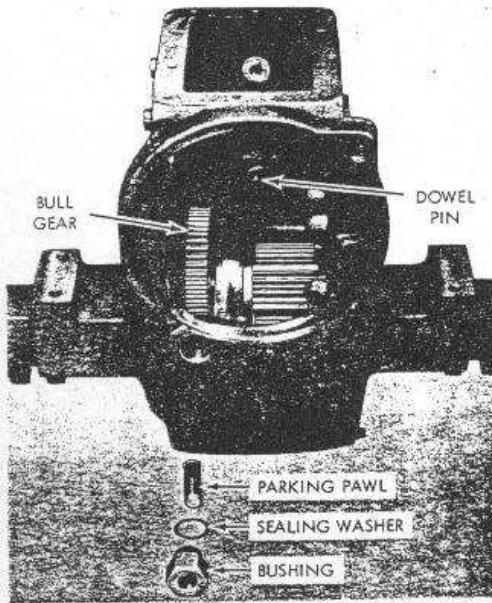

Figure 11
A slot located on the back end of the motor of the hydrostatic package should be centered on the dowel pin (Fig. 11) of the main housing. This mating can be observed through the top cover access-hole.
6. Before inserting special positioner bolt with gasket (12 and 13), observe to see if the dowel pin (Fig. 11) in the transaxle housing is in line with hydrostatic motor casting slot. If not, gently move (using rocking motion) in place. Insert bolt (12) and start thread engagement by hand.
The pinion gear hydrostatic motor-shaft will mesh automatically with bull gear (Fig. 11) when special 1/2" positioner bolt (12) is securely tightened. Torque to 40 ft. lbs.
7. Reinstall filter stud (10) and filter (9).
8. Insert spline coupling (52) onto splined shaft of brake flange assembly (55) with gasket (60), insert this assembly on spline shaft of the motor. Tighten securely with four bolts and gaskets (59 and 61).